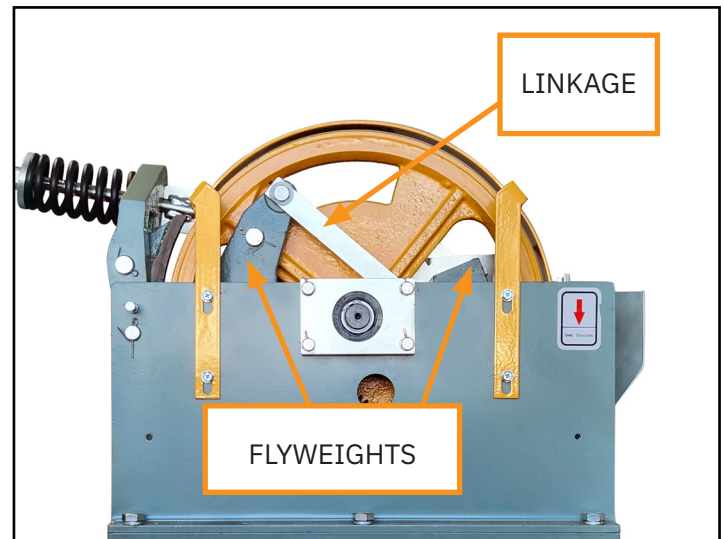
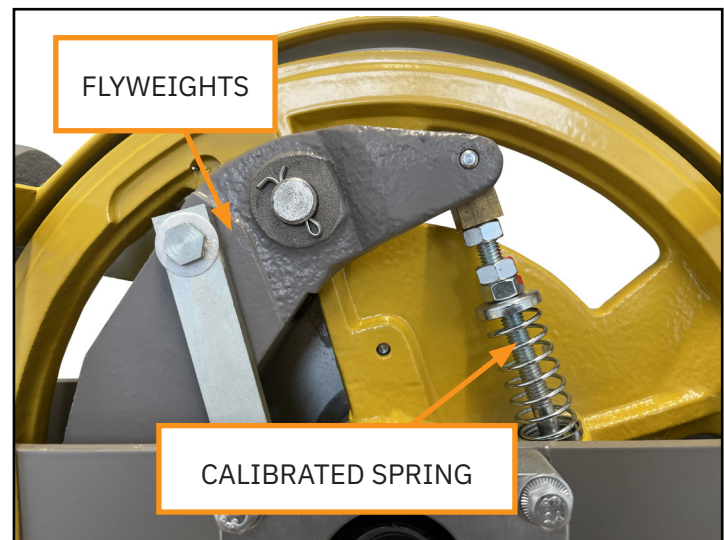

Figure 1
Figure 2
- This governor has two pivoting flyweights connected with a solid link to ensure simultaneous movement (*see figure 1*). The movement of the flyweights is controlled with a helical spring system (*see figure 2*). As the governor pulley rotates in the vertical plane, driven by the governor rope movement, the flyweights are driven outward due to the centrifugal force and compressing the calibrated spring assembly.